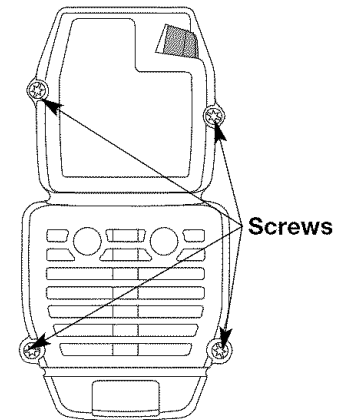

Fig. 14
1. Remove the four (4) screws securing the air filter/muffler cover (Fig. 14). Use a flat blade or T20 Torx bit screwdriver.
9. Reinstall the air filter/muffler cover (Fig. 14).
2. Insert the four (4) screws into the holes in the air filter/muffler cover (Fig. 14) and tighten. **Do not over tighten.**